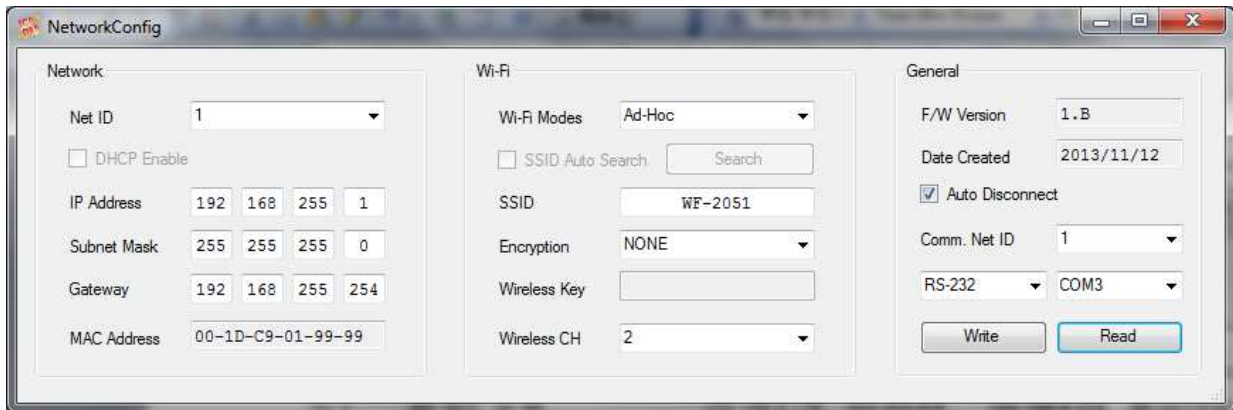

Figure 4-3: Configuration Interface
- 01 、 Net ID : The Unit Identifier in Modbus TCP/IP application data unit. This case is set as "1" in Figure 4-3.